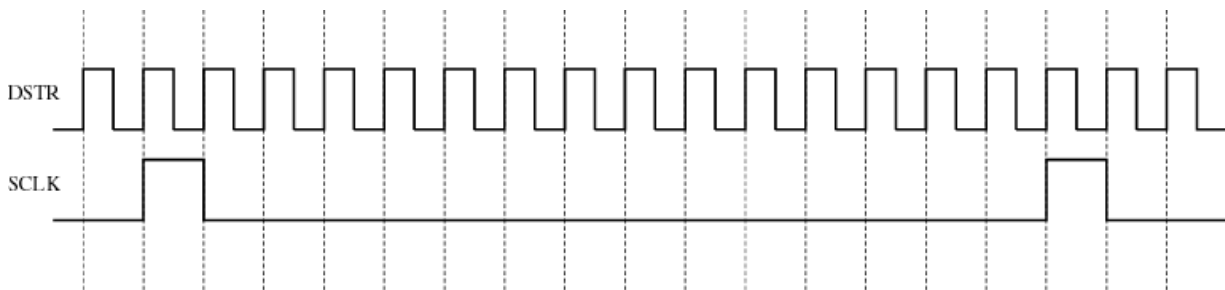

Figure 10. Relationship between DSTR and SCLK
**Clock Requirements:** The imager requires a steady system clock (SCLK) signal. SCLK sets the row rate, which in turn determines the frame rate. Figure 10 illustrates the relationship between DSTR and SCLK.